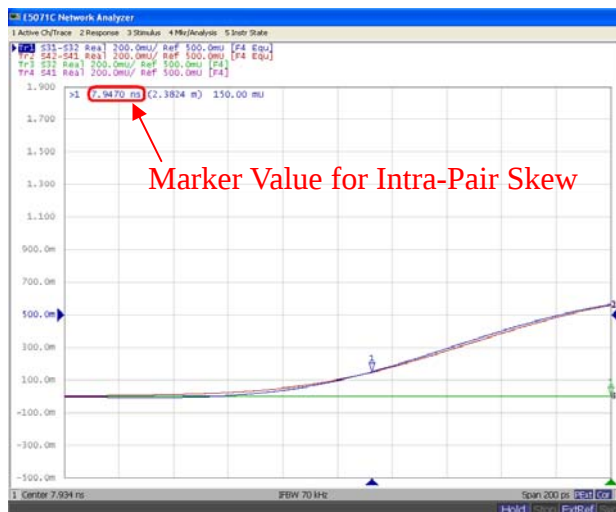

Figure 5.7.4 Marker Value for Intra-Pair Skew
13. Write down the Marker Value for Intra-Pair Skew calculation. (Refer to Figure 5.7.4